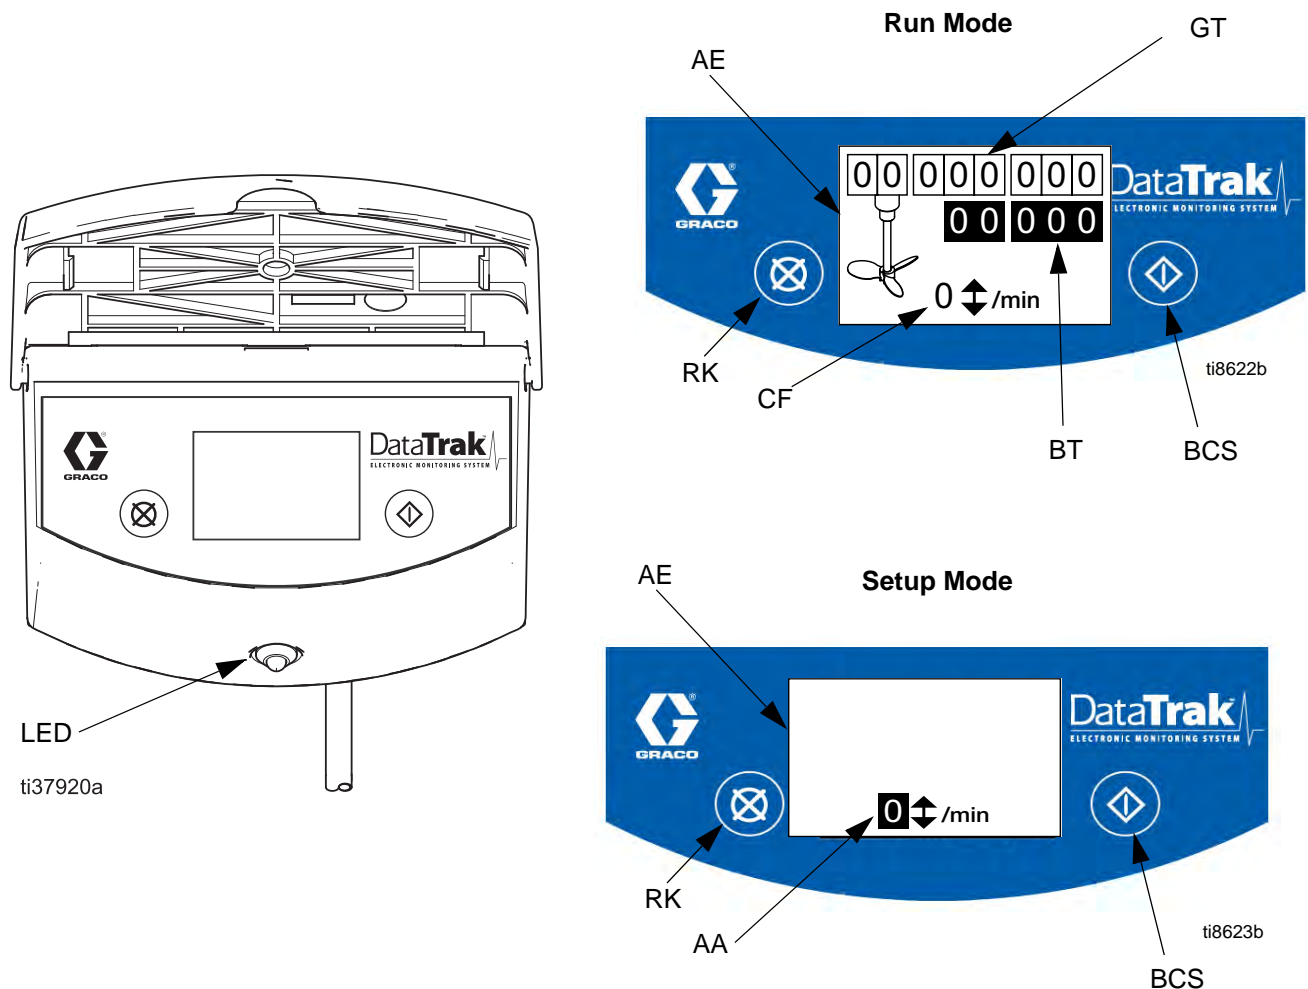

FIG. 1. DataTrak Controls and Indicators
1. See FIG. 1. Press and hold  for 5 seconds until Setup menu appears.
NOTE: To disable over-speed monitoring, go to setup mode and set over-speed value to 0 (zero). See FIG. 1.
1. See FIG. 1. To enter Batch Counter Suppression Mode, press any key to wake up the display, then press . The Batch Counter Suppression symbol will appear in the display and the LED will flash
2. While in Batch Counter Suppression mode, batch counting is disabled, and the batch totalizer (BT) will not count.
See FIG. 1. The display (AE) will turn off after 1 minute of inactivity in Run mode or 3 minutes in Setup mode. Press any key to wake up the display.
If the LED (AD in FIG. 1) is flashing, a symbol and code will appear on the display. See Table 1.